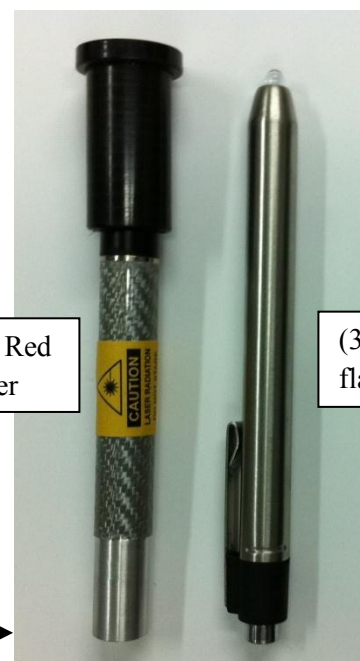

Figure 2: Close-up of the two light sources.
- (1) The sample - a piece of plastic material fixed in a slide frame. **The sample is sensitive - do not touch it. To adjust the sample's position, use its holder and stand.**
- (2) A holder and stand for the slide frame. The stand includes a handle which can be used for fine rotations of the sample. **Do not remove the slide frame from its holder.**
- (3) A white LED flashlight. The flashlight can be turned on and off using a button at its rear end. **Do not confuse it with the laser (see Figure 2).**
- (4) A red laser pointer. **The laser is marked with a warning label. Do not confuse it with the white flashlight (see Figure 2).** The laser may be turned on and off by moving its black cap back and forth. **Don't try to remove the cap – it may be dangerous, and you may break the laser.** The laser's battery will weaken after about an hour - do not keep it turned on longer than necessary. The laser's wavelength is  $\lambda = 652\text{nm} \pm 2\text{nm}$ .
- (5) A single stand to be used for the two light sources. **At the start of the experiment, the flashlight is fixed to the stand, while the laser lies on the desk.**
- (6) A white screen on wooden legs, covered with millimeter graph paper. There is a hole near the middle of the screen. You are allowed to make markings on the screen.
- (7) A wooden stake that can be moved back and forth on a wooden bench. You are allowed to make markings on the bench.
- (8) A tape measure.
- (9) A ruler.
- (10) Millimeter graph paper.
- (11) A desktop lamp which can be turned on or off for your convenience.